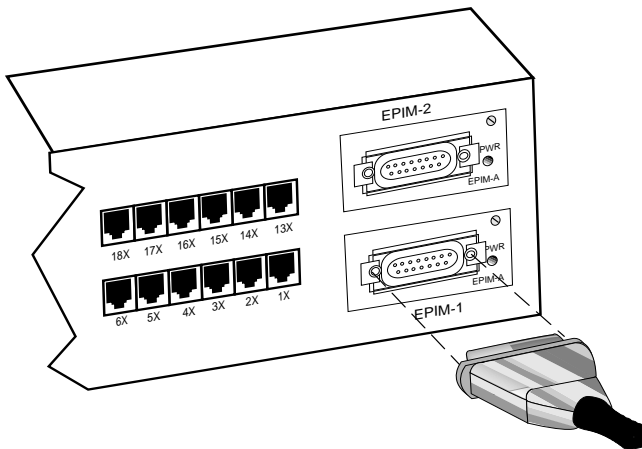

Figure 4-6. The EPIM-A
3. Connect the AUI cable to the AUI port located on the EPIM-A. See Figure 4-6.